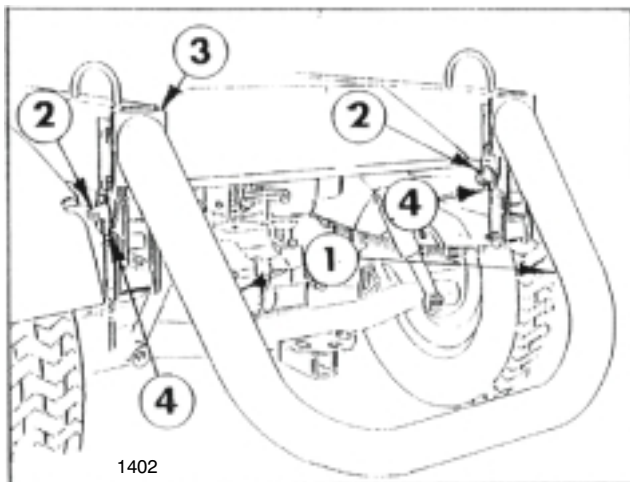

FIG. 6
18. Mount the Rear Support to the Mounting Frame and secure with two 1/2" x 3-1/4" bolts, four flat washers, and two lock nuts on each side of the Mounting Frame. **Do not** tighten bolts. See FIG. 6.